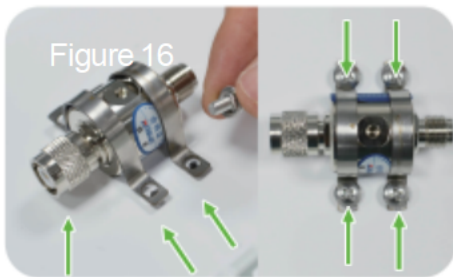

Figure 16
16. Fix antenna feeder lightning arrester as shown in Figure 16, refer to enclosure assembly drawing (Page P02), place arrester on base plate with nut side facing T66L, install 2 brackets and tighten using 4 M4 Phillips screws with spring washers.